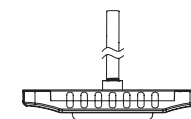

Figure 5
2. Screw the fixture to the 3/4" NPT Stem (Figure 5).